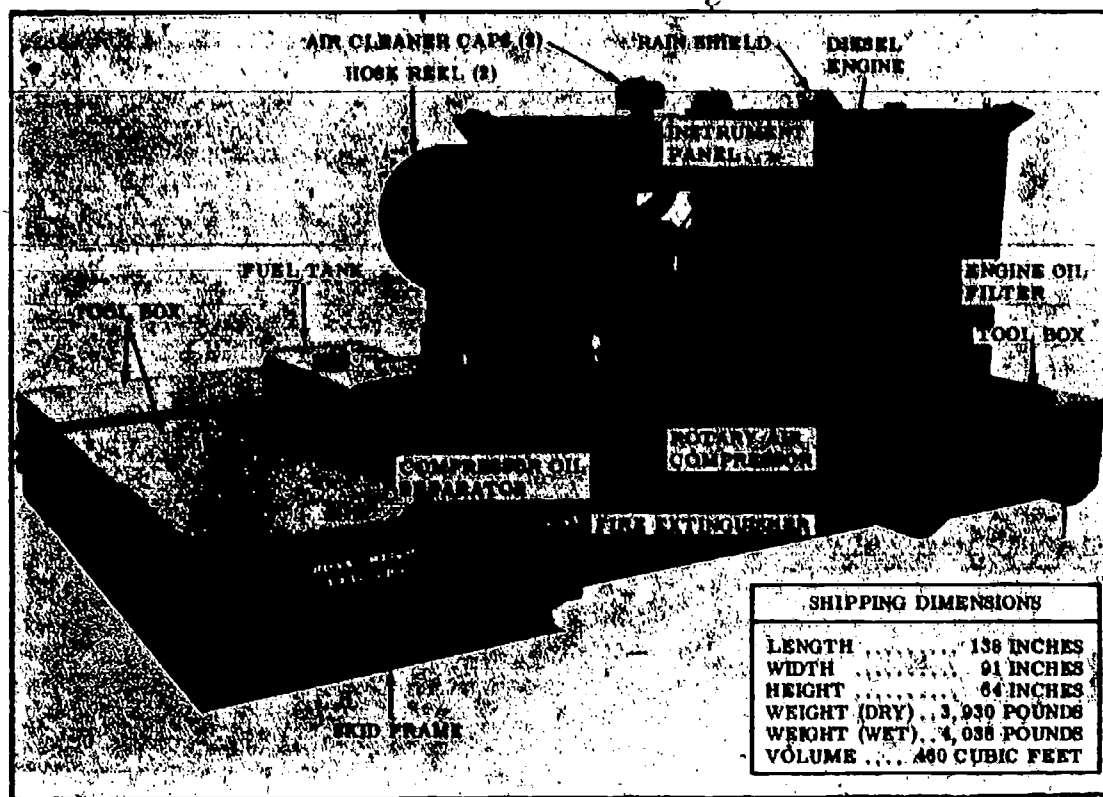

Fig 1-17. Skid-mounted Davey 250-cfm rotary air compressor.
a. Davey rotary 250-cfm air compressor (fig 1-17). This compressor is basically skid-mounted, but it can be, and is, mounted on trailers and trucks. It is powered by a series 53, Detroit diesel engine. It will provide 250 cfm at a discharge pressure of 100 psi. It is an oil-cooled, single-stage, sliding-vane, rotary-type compressor which has fewer moving parts than the reciprocating compressor. This compressor is equipped with a thermoswitch assembly which is located on the discharge side of the Compressor. This thermoswitch is connected to an automatic shutdown control which will stop the engine if the discharge air exceeds 230°F.